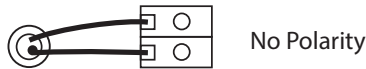

Figure 7
- The relay has both Normally Open (NO) and Normally Closed (NC) contacts available. The relay output is available on the NO/COM/NC terminal. Make connections before applying power as shown in Figure 7.